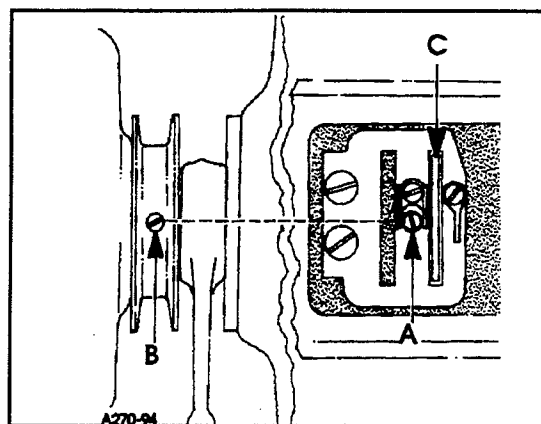

FIG. 21
With the machine rotating in operating direction the looper thread take-up is in time when the first screw coming into view (A, Fig. 21) is in line with the spot screw (B) on the main shaft in the pulley. NOTE: screw (A) is accessible through the hole in the take-up. With this setting correct, the looper thread should cast-off of the take-up (C) when the needles are safely in the triangle. If adjustment is necessary loosen two screws (A) in take-up (C) position screws in line with spot screw (B). Tighten screws (A).